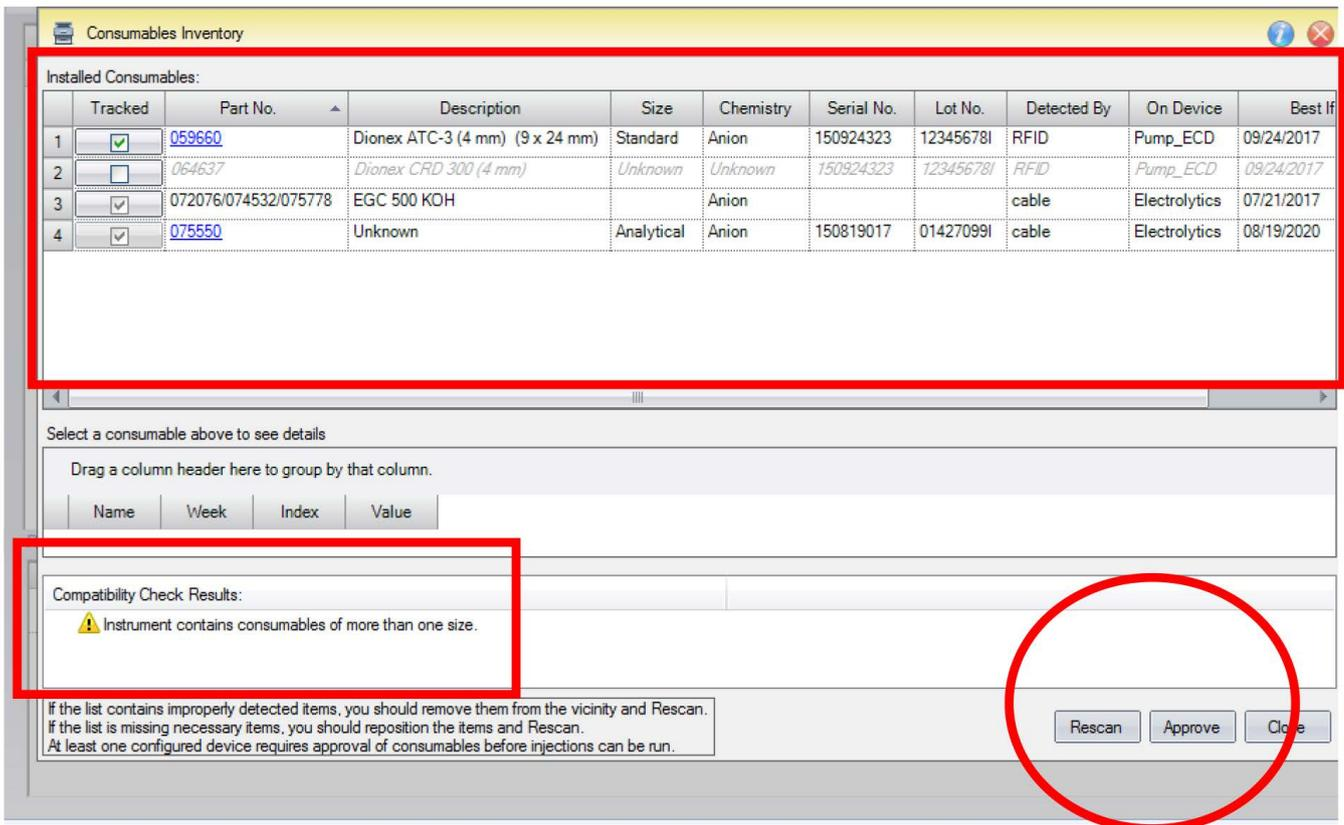

Figure 6. Consumables tracking.
1. Select Consumables and select Inventory (Figure 6).
The device monitoring shows the device history, tracking: Part No., size, serial numbers, manufacture lot, installed location (On Device), and Best if Use by Date (Figure 6, top). Additionally, the device monitoring will provide warnings if there is incompatibility in the devices installed (Figure 6, bottom left).
4. Close the page (Figure 6, bottom right).